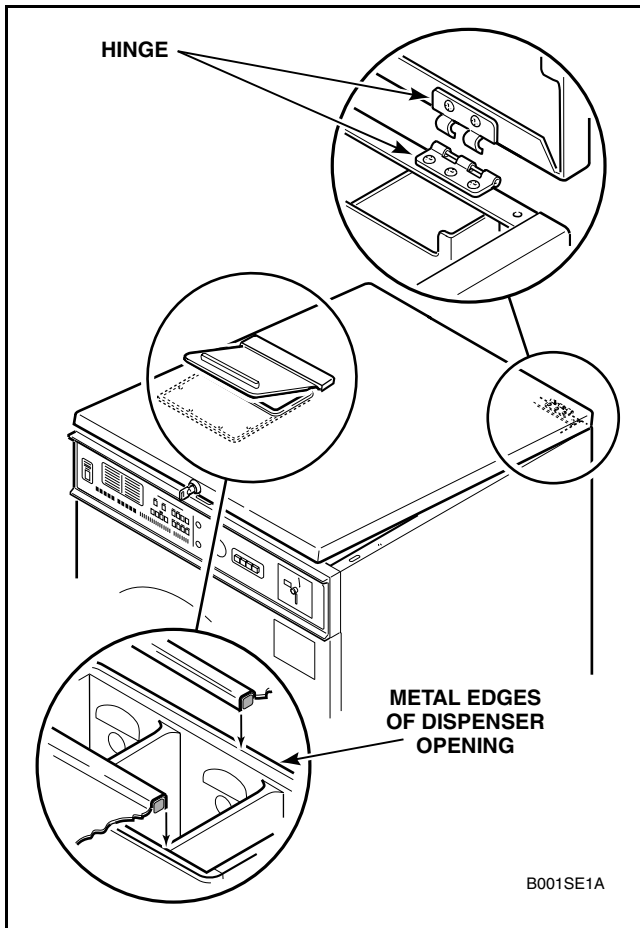

Figure 1
- Insert key into cabinet top lock and turn clockwise. Lift up on front of cabinet top until it is just past the rear hinges, or 90 degrees, refer to *Figure 1*. Lift cabinet top off machine and set aside.
- Insert key into cabinet top lock and turn clockwise. Lift up on front of cabinet top until it is just past the rear hinges, or 90 degrees, refer to *Figure 1*. Lift cabinet top off machine and set out of way.
- a. Insert key into cabinet top lock and turn clockwise. Lift up on front of cabinet top until it is just past the rear hinges, or 90 degrees, refer to *Figure 1*. Lift cabinet top off machine and set out of way.